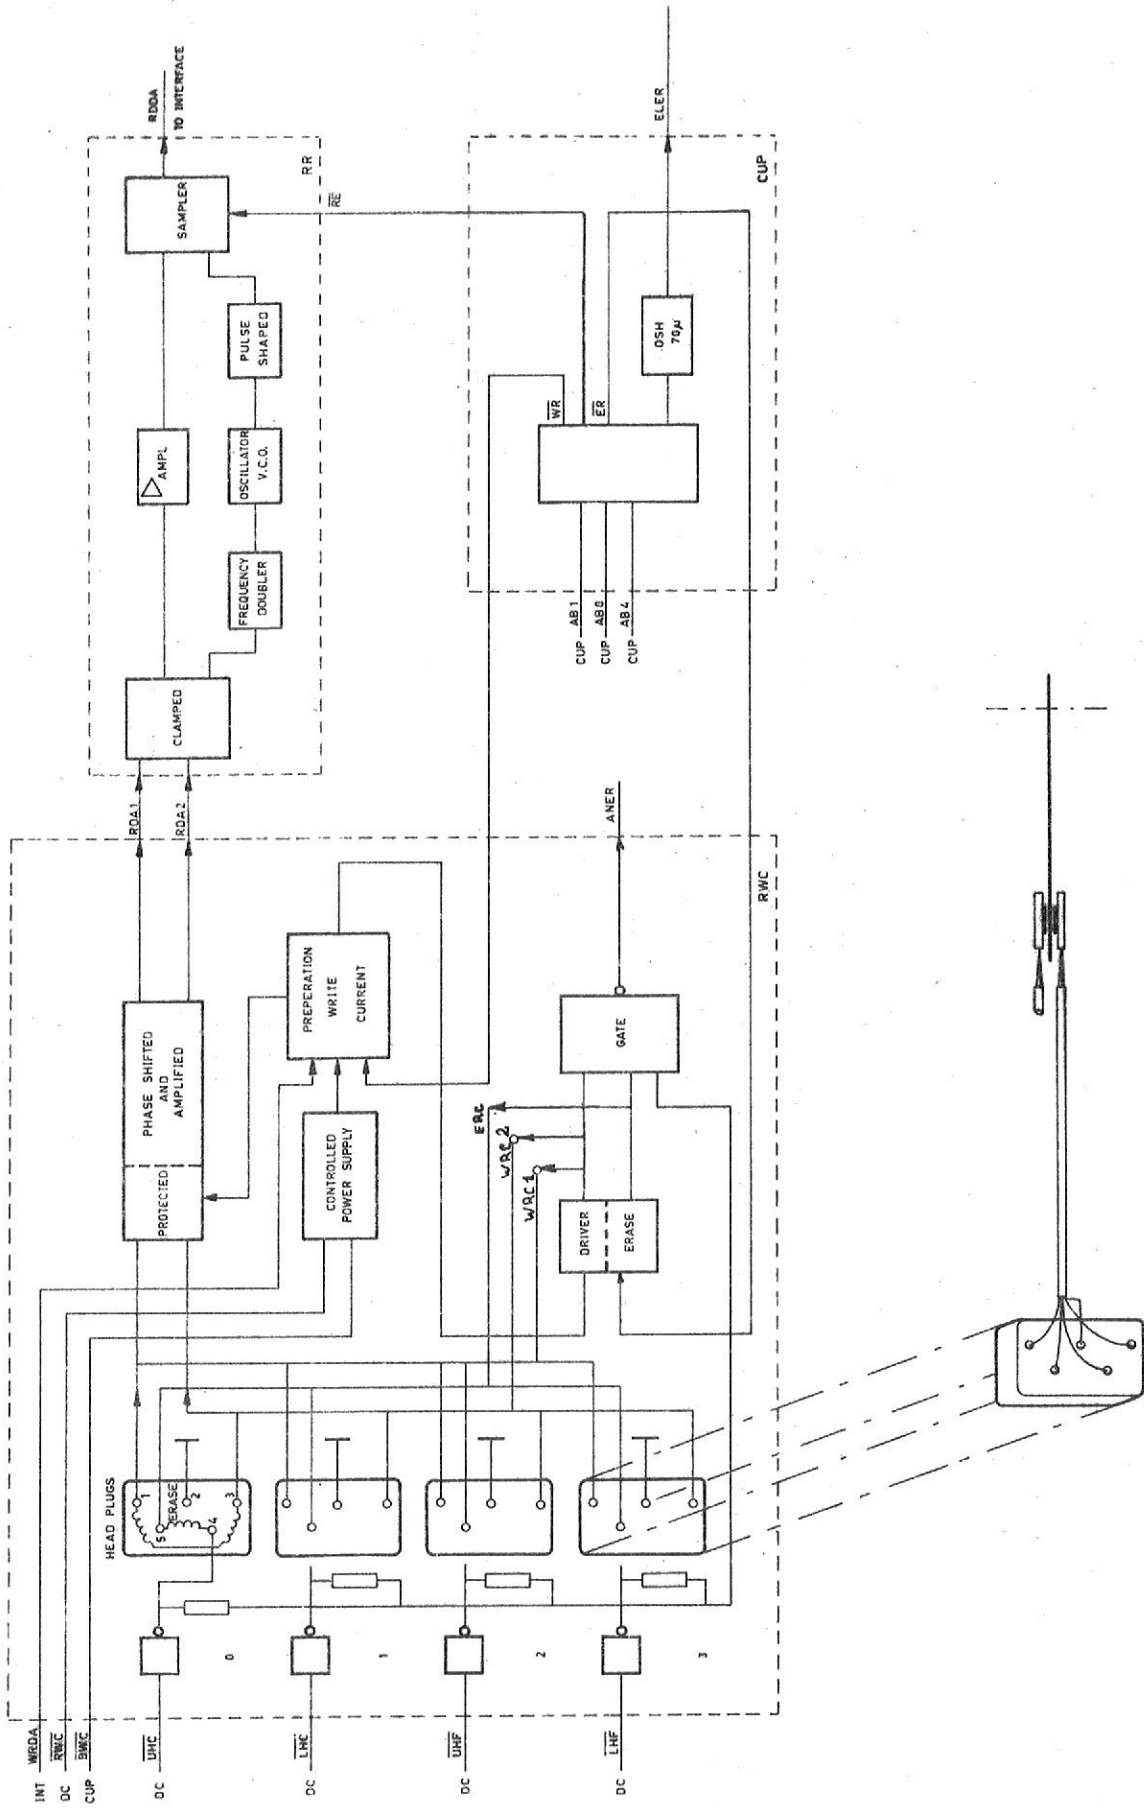

Figure 3-17 READ/WRITE
6.10 WRITE OPERATIONS (Figures 3-17 and 3-18)
6.11 READ OPERATION (Figures 3-17 and 3-18)